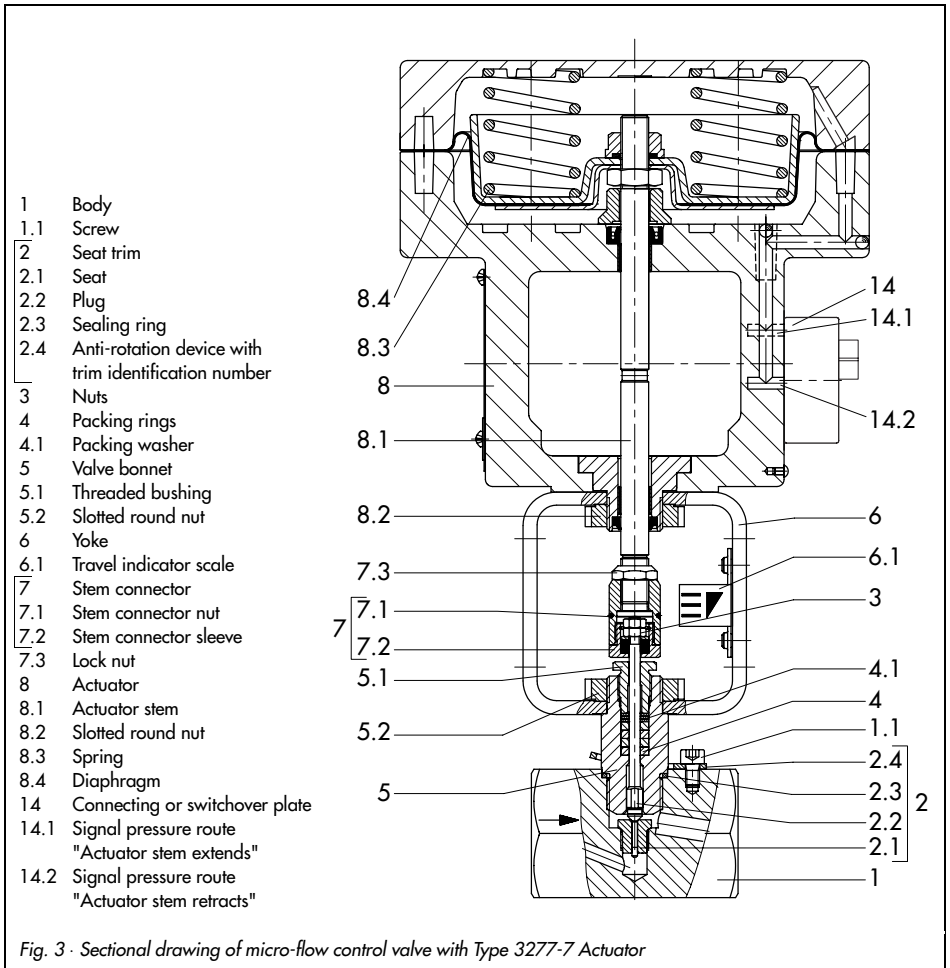

Fig. 3 - Sectional drawing of micro-flow control valve with Type 3277-7 Actuator
1. On the actuator stem, loosely screw both stem connector nut (7.1) and lock nut (7.3) all the way up (Fig. 3).
3. Place the actuator on the yoke (7) and fasten with slotted round nut (8.2). For fail-safe action "Actuator stem extends", apply approx. 50 % of the signal pressure range (see nameplate) to the signal pressure connection of the actuator using a pressure regulator, caus-